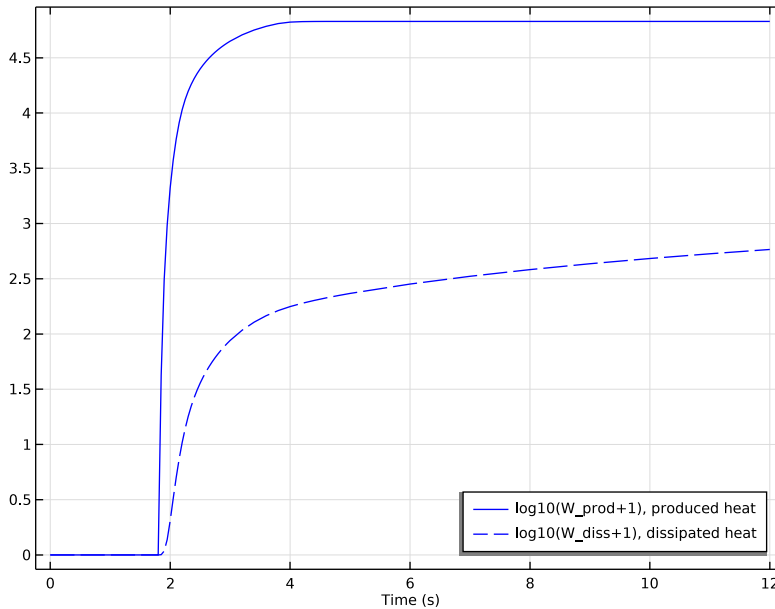

Figure 7: Comparison of total produced heat (solid line) and dissipated heat (dashed).
To investigate how much of the generated heat is dissipated to the air, study the surface integrals of the produced heat and the dissipated heat. These integrals give the total heat rate (W) for heat production, Q_{prod} , and heat dissipation, Q_{diss} , as functions of time for the brake disc. The time integrals of these two quantities, W_{prod} and W_{diss} , give the total heat (J) produced and dissipated, respectively, in the brake disc. Figure 7 shows a plot of the total produced heat and dissipated heat versus time. Eight seconds after the driver has stopped braking, a mere fraction of the produced heat has been dissipated. In other words, in order to cool down the system sufficiently the brake needs to remain disengaged for a much longer period than these eight seconds (100 seconds, in fact).